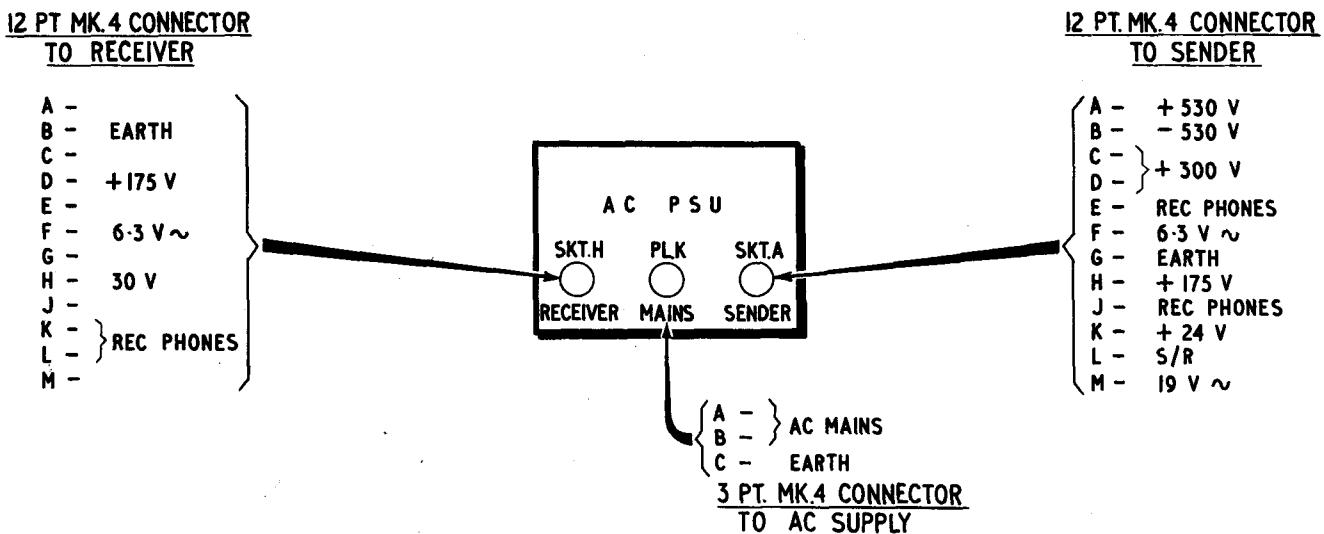

FIG. 26 CONNECTIONS TO THE AC PSU
- (6) A diagram showing detailed plug point connections for the AC power supply unit is given in fig. 26.